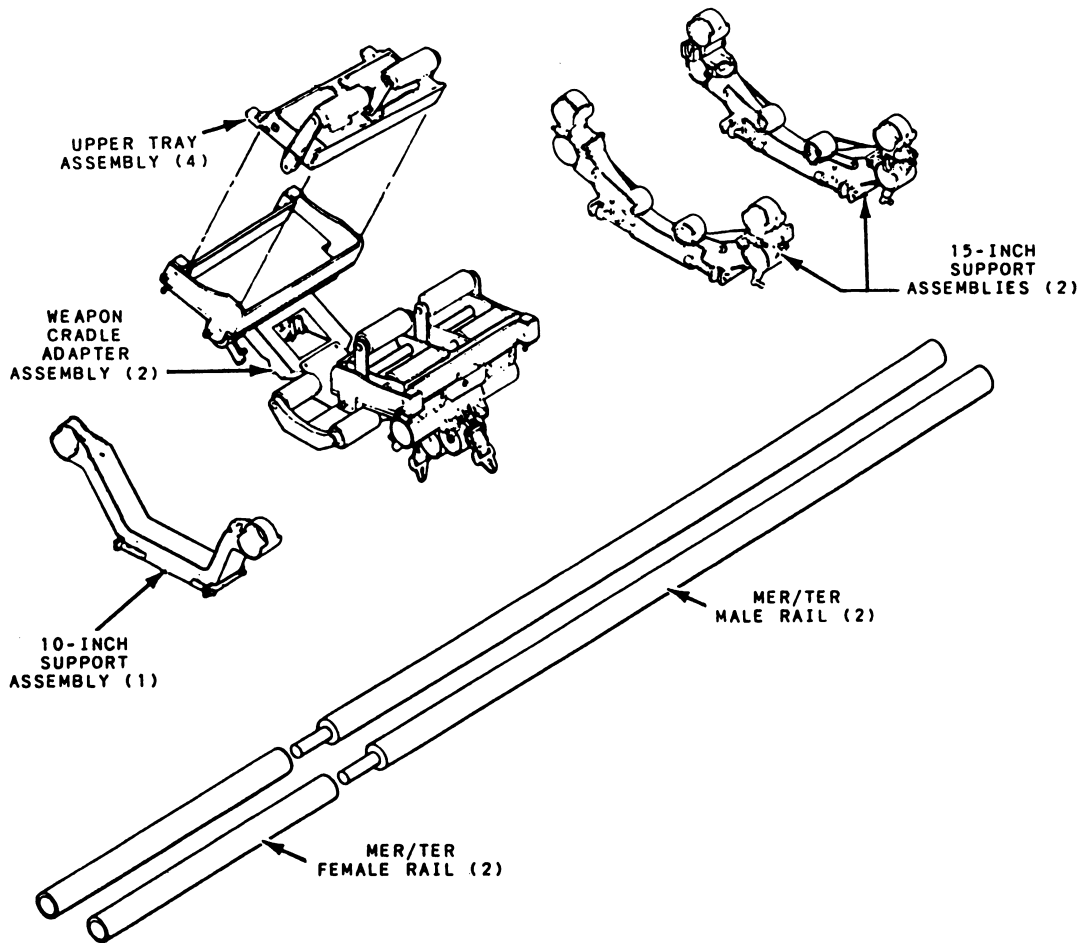

Figure 10-36.—ADK-362/A/B/M32K-5(V) multiple weapon adapter.
The ADK-362/A/B/M32K-5(V) multiple weapon adapter (fig. 10-36) consists of a 10-inch support assembly, two 15-inch support assemblies, two weapon cradle adapter assemblies, two MER/TER (female) rails and two MER (male) rails. The A model added an F-14 aircraft weapon rail capability. The B model modified the weapon cradle for cost reduction purposes. These assemblies and rails are used